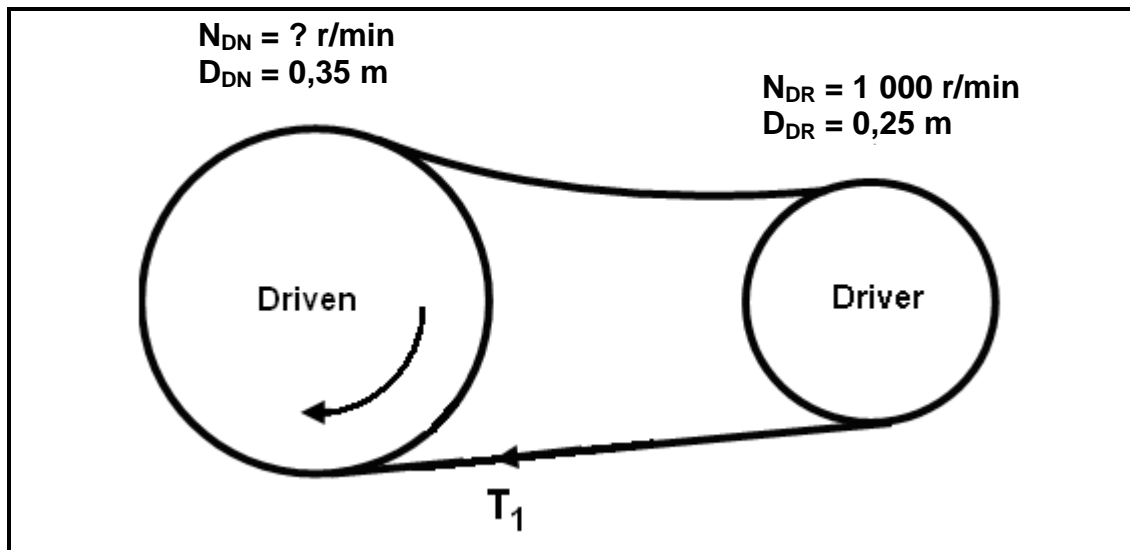

FIGURE 6.2
- 6.3 FIGURE 6.2 shows a belt-drive system. A pulley with a diameter of 0,25 m drives a driven pulley with a diameter of 0,35 m. The driver pulley rotates at 1 000 r/min. $T_1 = 200$ N and $T_2 = 90$ N.